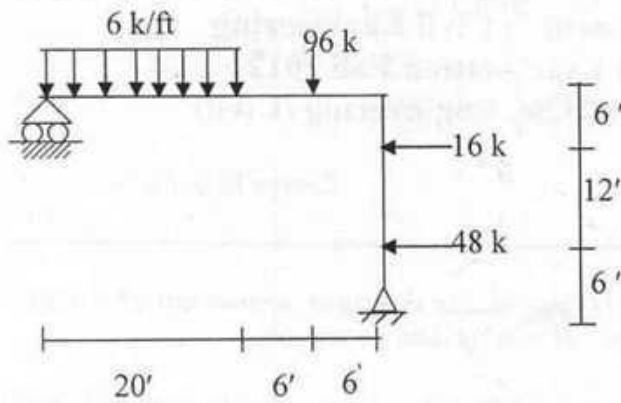

Fig.4
4. Draw the shear force and bending moment diagrams for the structure shown in Fig 4. (10)